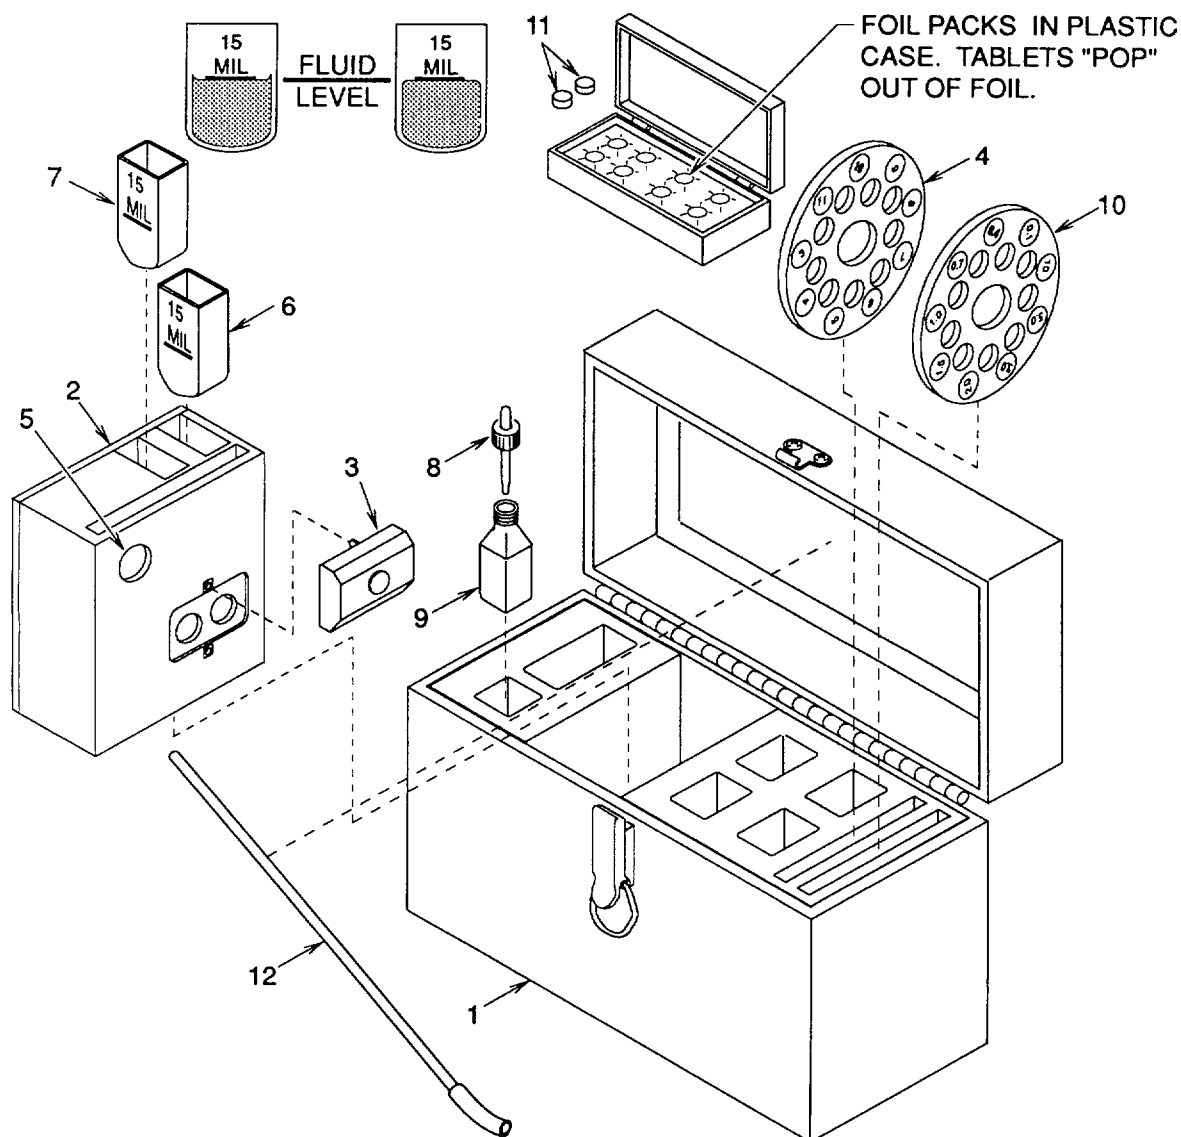

Figure 2-14. pH/Chlorine Test
b. Unlatch and open carrying case (1) cover. Remove comparator housing (2) and eyepiece (3). Fit eyepiece onto housing. See figure 2-14.
(1) Perform the pH test.